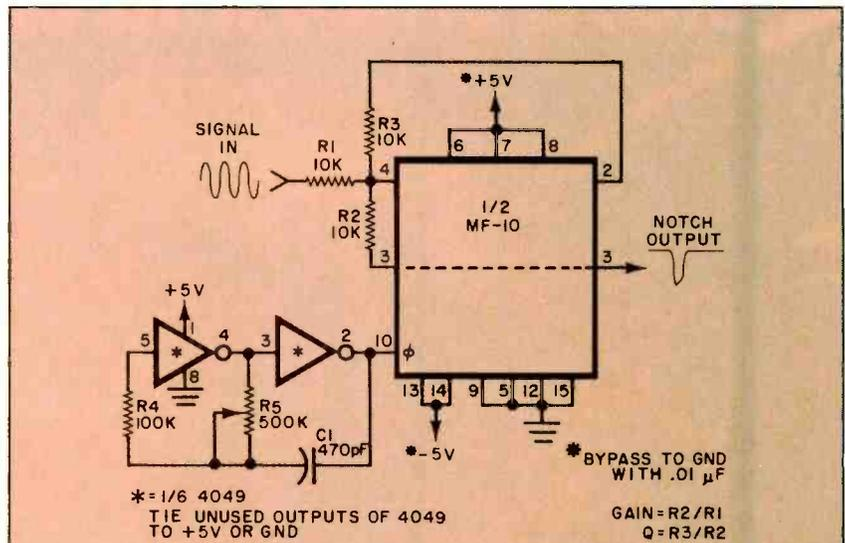

Fig. 7. Switched capacitor 60-Hz hum filter.
**How it Works.** Figure 7 is the circuit for a straightforward 60-Hz notch filter designed around the MF-10. The filter, which is operated in the inverting mode, provides a voltage gain of  $-R2/R1$ . The Q is  $f_0/BW$  (bandwidth at the  $-3$  dB points).